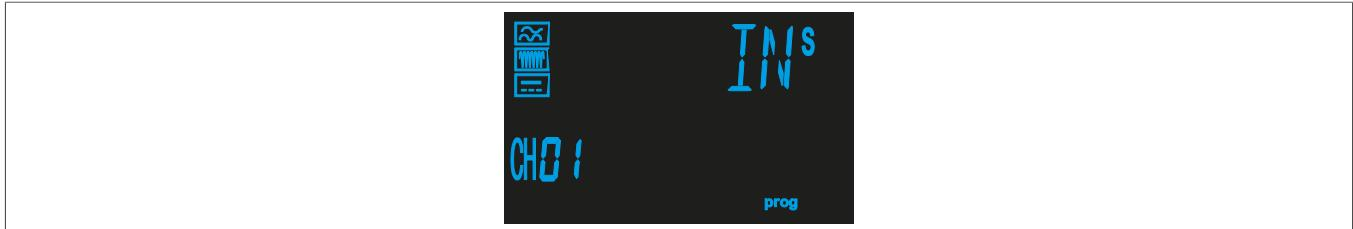

Fig. 24: Screen for the trip delay
- ✓ The screen for the trip delay (Fig. 24: Screen for the trip delay) has been opened